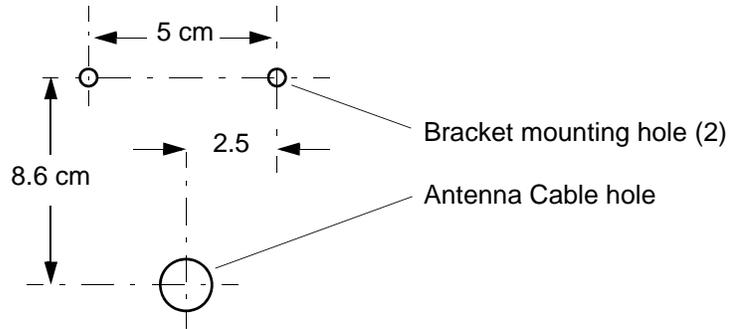

Figure 3-9 Hole Spacing
2.	Use Figure 3-9 to determine the spacing of the 2 holes for mounting the bracket, and the distance to the hole for passing the cable into the building.